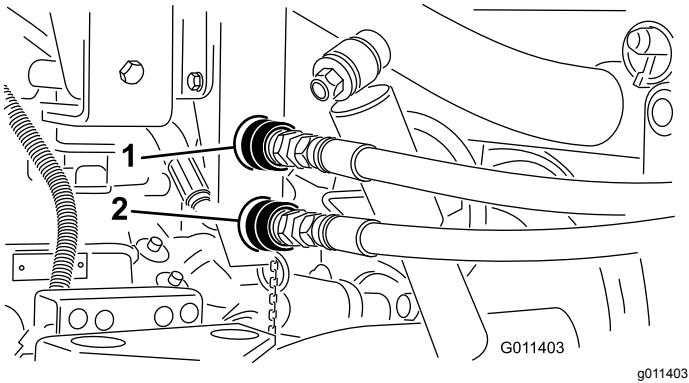

Figure 17
3. Clean any dirt from the topdresser quick couplers (Figure 17) before connecting them. Dirty couplers can introduce contamination to the system. After cleaning, attach both quick couplers to the Workman. The hoses are marked "A" and "B", match them to the quick couplers when installing. Ensure that both quick couplers are full engaged.
Note: The couplers shown in Figure 17 are from vehicles with serial numbers prior to 2399999999.